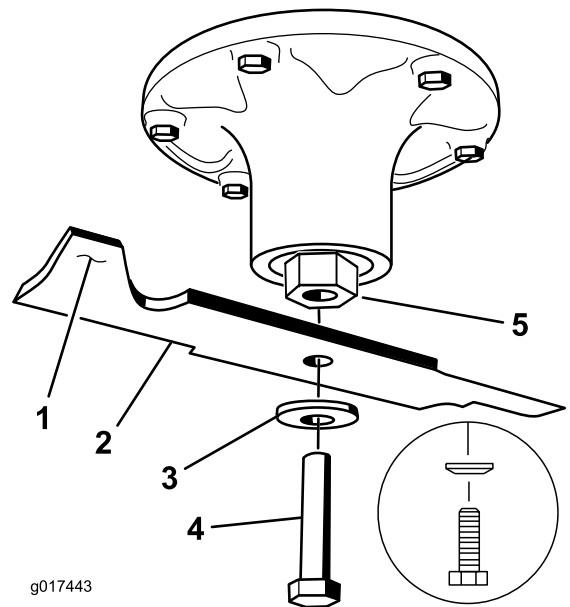

Figure 69
2. Remove the blade bolt, curved washer, and blade from the spindle shaft (Figure 69).
1. Install the blade onto the spindle shaft (Figure 69).
2. Install the curved washer and blade bolt (Figure 69).